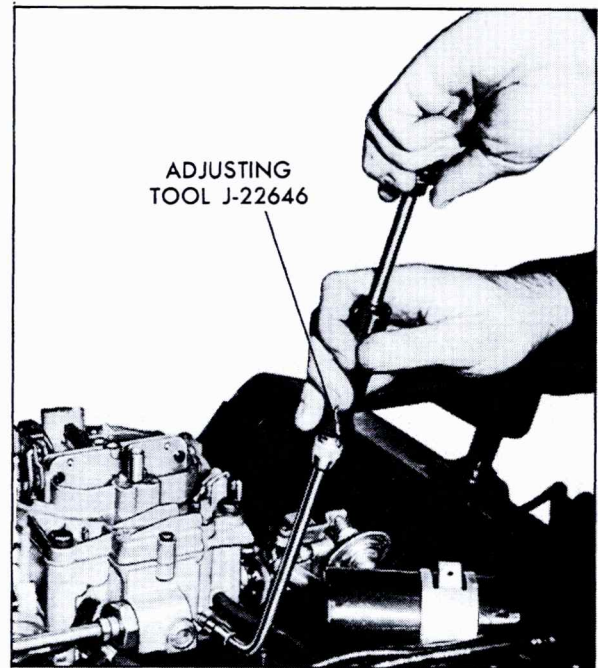

Fig. 6-88 Adjusting Low Speed Idle
91. Low Speed Idle and Mixture Adjustment (On Car) (Fig. 6-88)
7. Set idle speed to 550 rpm by adjusting low speed idle screw shown in Fig. 6-88.